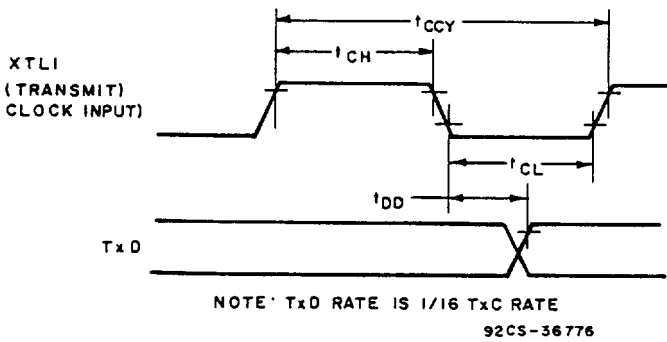

Fig. 23 - Transmit-timing waveforms with external clock.
**DYNAMIC ELECTRICAL CHARACTERISTICS—TRANSMIT/RECEIVE, See Figs. 23, 24 and 25.**